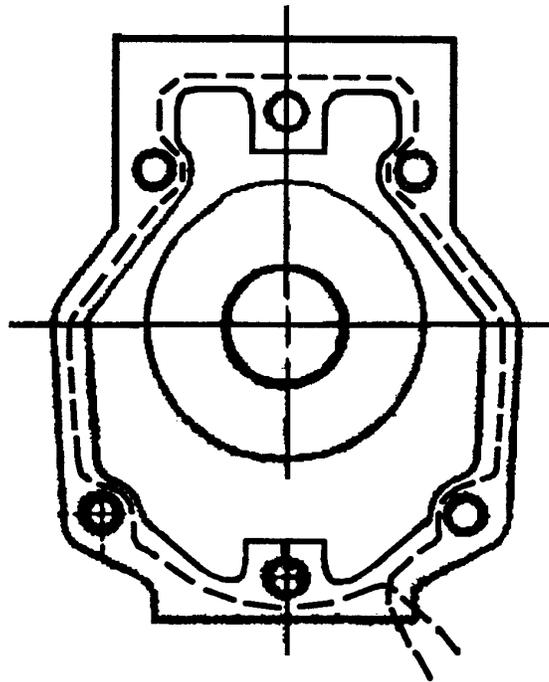

FIGURE 11-5. ACCESSORY DRIVE HOUSING THREADING PROCEDURE
2. Install new clutch spring (14) on worm wheel (13). Turn spring so it tends to unwind until offset end drops into the worm wheel gear land. Position spring on gear so screw notch is aligned with screw hole in gear web. Install new tab washer (15) and screw (16). Torque screw (16) to 75.0-85.0 inch pounds torque, and bend tab up against screw head.
3. Lubricate spring and shaft gear liberally with clean 50 weight aviation engine oil. Press worm wheel and spring assembly onto shaft gear (17). Insert shaft gear and worm wheel assembly into adapter. Make sure worm wheel and worm gear teeth are aligned.
4. Using an arbor press install new bushings (32, 37 and 38) in accessory drive adapter (33). Apply TCM Gasket Maker to the outside diameter of new uncoated oil seals. Install new oil seals (35, 36) in accessory drive adapter (33). Clean accessory drive adapter removing any debris. Lubricate bushings and oil seals with clean 50 weight aviation engine oil. Lubricate new or serviceable scavenge pump gears (19, 21) shafts, ends and teeth with clean Molyshield grease. Lubricate the scavenge pump housing and cover gear contact areas using clean Molyshield grease. Install scavenge gears (19, 21) in accessory drive adapter (33). Install new or serviceable scavenge pump cover (22) on accessory drive adapter (33) and secure using washers (24) and screws (25). Torque screws (25) to 75-85 inch pounds and lockwire in accordance with Section 4-2. Insure that gears (19, 21) rotate freely.
5. Install bracket (63), lifting eye (64), new lock washers (69), washers (68) and bolts (71, 73) on accessory drive adapter (33). Center scavenge pump gear (21) inside accessory drive adapter (33). Using new o-ring (18), install accessory drive adapter on starter adapter housing and insure that shaftgear (17) has completely engaged scavenge pump gear (21). As the accessory drive adapter is installed insure bolts (71, 73) line up and slide through starter adapter housing. Secure the brackets, lifting eye and accessory drive adapter to the starter adapter housing using washer (68), new lockwasher (69) and nut (72). Snug but do not torque nut (69) at this time. Coat bevel gear teeth with clean Molyshield grease. Using a new woodruff key (27), install bevel gear (46) on end of shaftgear (17) inside of accessory drive adapter (33). Position gear (48) inside accessory drive adapter. Using a new square key (45), install drive shaft (44) in accessory drive adapter (33). Insure that shaft (44) properly engages bevel gear (48) and that key (45) is properly positioned. Install a new retaining ring (47) on shaft (44) and insure that it is properly seated. Inspect bevel gears for a backlash of .004 to .006.
6. Apply TCM Gasket Maker to the outside diameter of new uncoated oil seals. Install new oil seal (56) and new bearings (55) in accessory drive housing (57). Lubricate bevel gear (49) with clean 50 weight aviation engine oil. Install bevel gear (49) in accessory drive cover (57). Apply Permatex and silk thread to accessory drive housing flange (57) in accordance with Figure 11-5, "Accessory Drive Housing Threading Procedure." Install accessory drive housing (57) on accessory drive adapter and secure using washers (65) and nuts (66). Torque nuts (66) to 75-85 inch pounds. Install bracket (62) on accessory drive housing (57) and secure